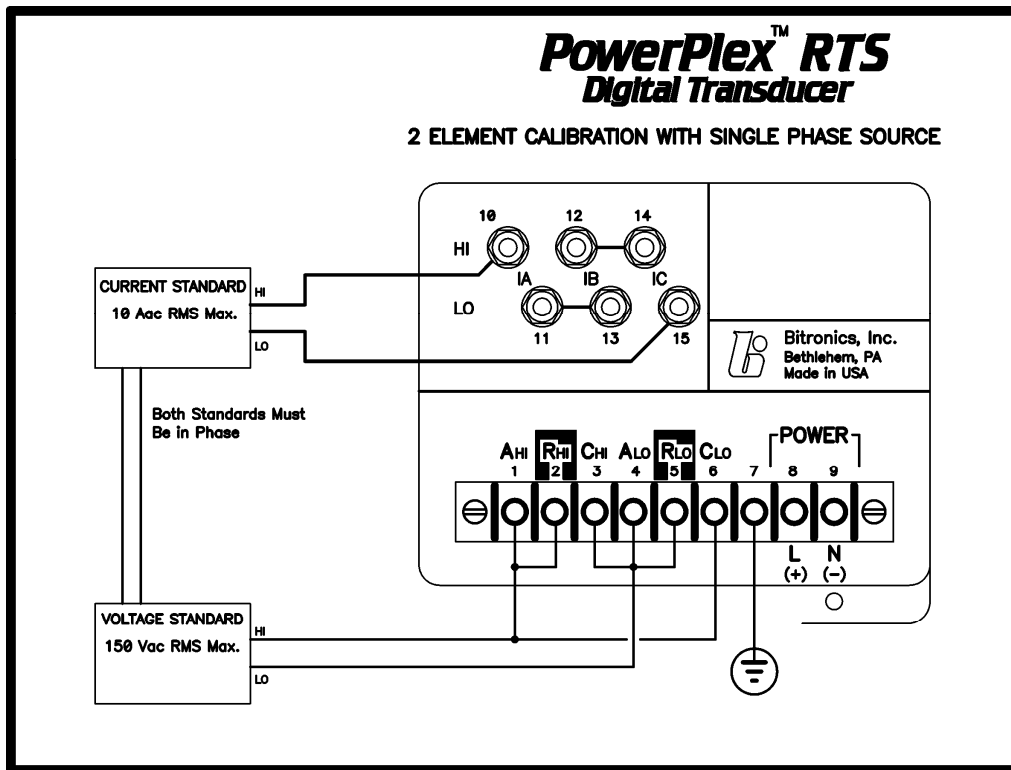

Figure 7 - Connection diagram for testing 2-Element (DELTA) PowerPlex RTS MTWIN4B with Single Phase Source.
- 2a. With the unit powered, AND WITH A PRECISION KNOWN INPUT, rotate the screw clockwise to increase the measurement, or counter-clockwise to decrease the indicated measurement. The PowerPlex transducers can be calibrated with a single phase source; for 2 Element (DELTA) mode the inputs should be connected as shown in Fig 7. Note that the internally generated phase C-A voltage will be the sum of phase A-B and phase B-C. With the connections shown in Figure 7, the A-B and B-C voltages are out of phase (bucking), and therefore will subtract (C-A voltage will be zero). This allows the full input voltage of 150Vac to be applied to the instrument. To check the C-A voltage, the user can apply voltage to either the A-B input (AHI - ALO) or the B-C input (CHI - CLO). If both A-B input (AHI - ALO) and the B-C input (CHI - CLO) are applied in phase, the input voltage should be kept below 75Vac in order to keep from exceeding the 150Vac maximum input level on phase C-A. These restrictions are only for single phase testing.